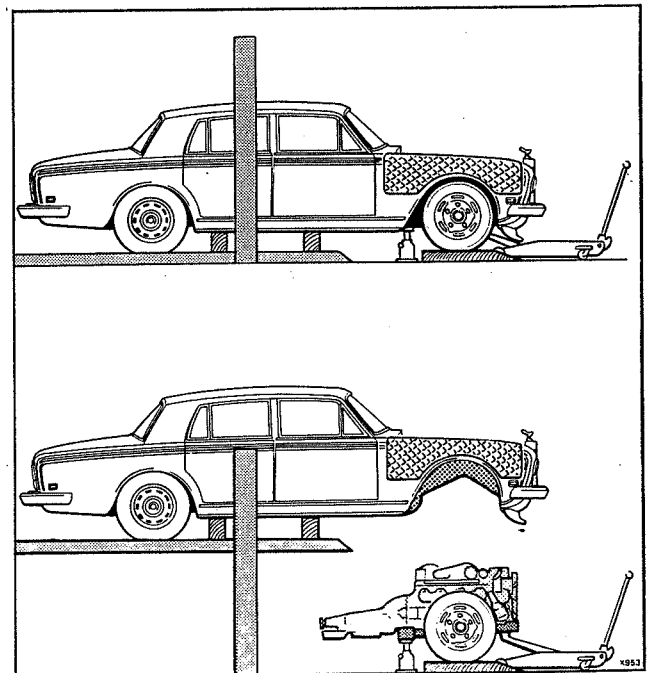

Fig. H4 Sub-frame, engine, and transmission unit removal
35. Lower the ramp to the ground. Carefully push the car forward off the ramp, until the front of the car overhangs the ramp sufficiently to allow the ramp to be raised, without any crossbeam or part of the ramp fouling the transmission unit (see Fig. H4). Place
blocks beneath the car body sills as far forward as possible to maintain the body on the ramp in the horizontal position (see Fig. H4).